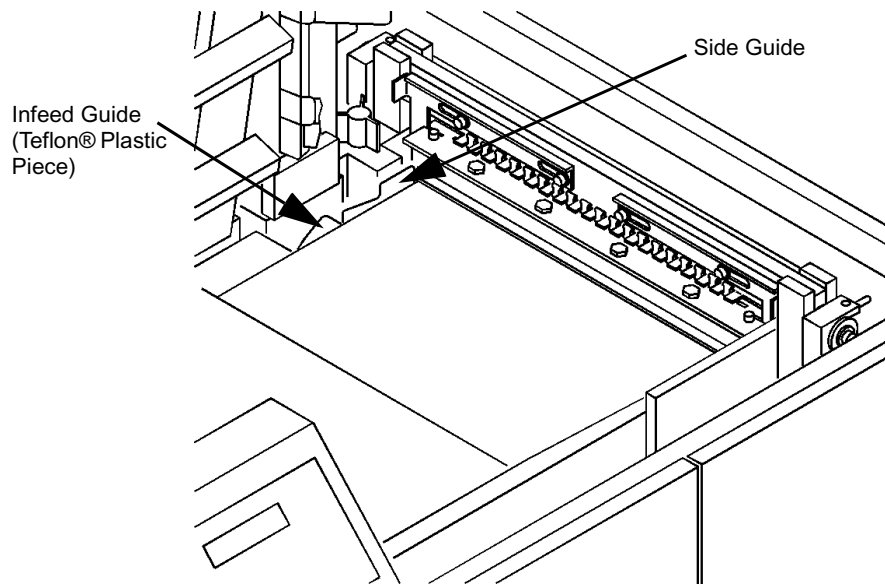

Figure 4-3: The Side Guide and Infeed Guide
- 5 Open (lift) the Sheet Eject Strap assembly. Clean the green belts under the straps, the Sensor Reflector and the Sensor (under the hole in the base plate) with Isopropyl alcohol and a clean lint-free cloth. Clean the Side Guide and the Infeed Guide, as shown in Figure 4-3. Check also for accumulations of paper dust or toner on the base plate.